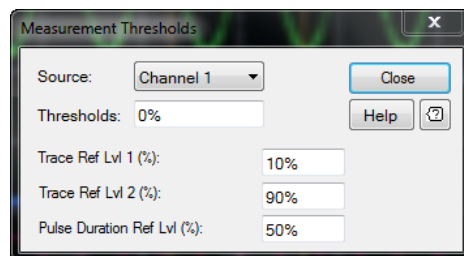

Figure 2-45 Measurement Thresholds dialog
- 2 The Measurement Thresholds dialog is displayed as shown in Figure 2-45 to allow you to configure the threshold settings for each channel.